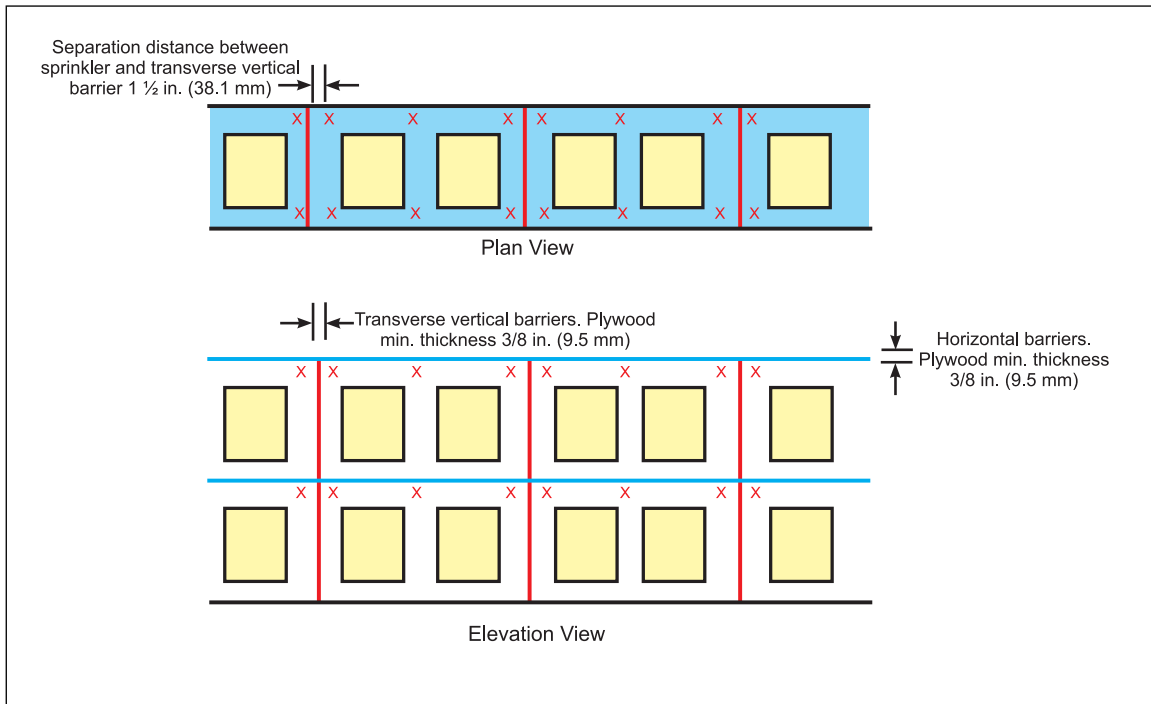

Fig. 4. In-rack sprinkler arrangement for single-row racks (Class 3)
2.10.3.3 For the configuration of class 3 oxidizers, see Figures 4 and 5 for single and double-row racks, respectively. Install 3 sprinklers on each line, with a total of 6 sprinklers per cell. The sprinkler system does not have to be hydraulically balanced with the ceiling-level sprinkler system.